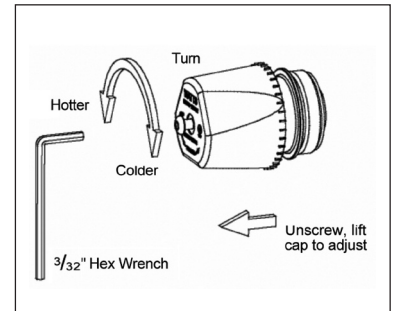

Figure 1
3. To adjust the setting of the valve, loosen locking cap screw with hex wrench, see Figure 1.